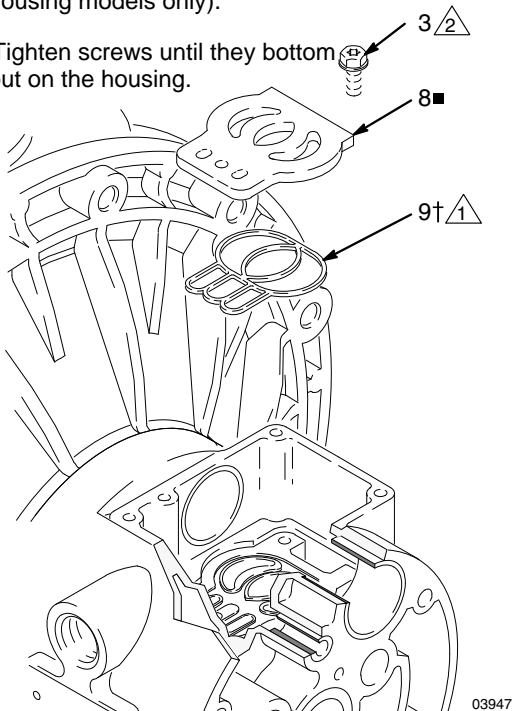

FIG. 9
5. Inspect the valve plate (8) in place. If damaged, use a Torx (T20) screwdriver or 7 mm (9/32") socket wrench to remove the three screws (3). Remove the valve plate (8) and, on aluminum center housing models only, remove the seal (9). See Fig. 9.
2. On aluminum center housing models, install the valve plate seal (9†) into the groove at the bottom of the valve cavity. The rounded side of the seal **must face down** into the groove. See FIG. 9.
3. Install the valve plate (8■) in the cavity. On aluminum center housing models, the plate is reversible, so either side can face up. Install the three screws (3), using a Torx (T20) screwdriver or 7 mm (9/32") socket wrench. Tighten until the screws bottom out on the housing. See FIG. 9.